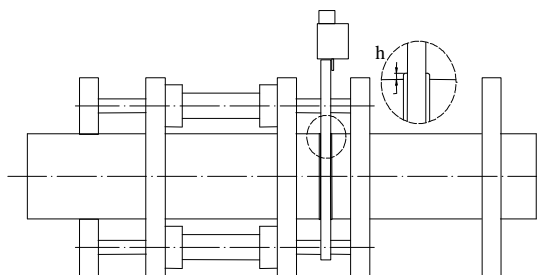

Figure 25
- ③ Open the moveable clamps sufficiently so as to introduce the heating plate and place it on the guide bars of the base framework and between the pipes/fittings to be joined. Bring the pipes/fittings to the heating plate, applying the pressure obtained in clause ② (initial heating pressure + drag). *Figure 25*.